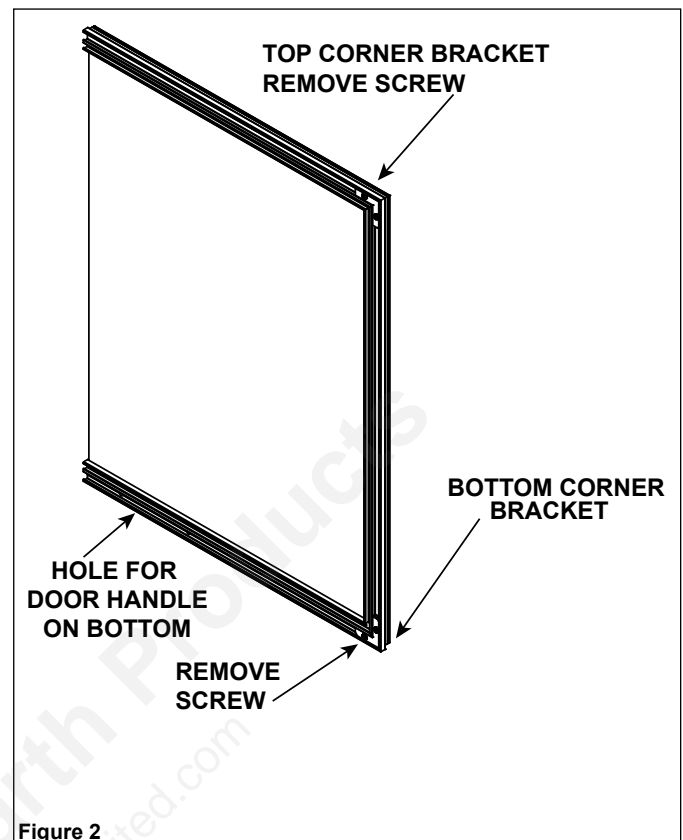

Figure 2
3. Remove one set screw from top of top corner bracket and one from bottom of bottom corner bracket (see figure 2). Discard the removed set screws.
5. Slide handle assembly on to bottom of door and tighten screws. See Figure 2.